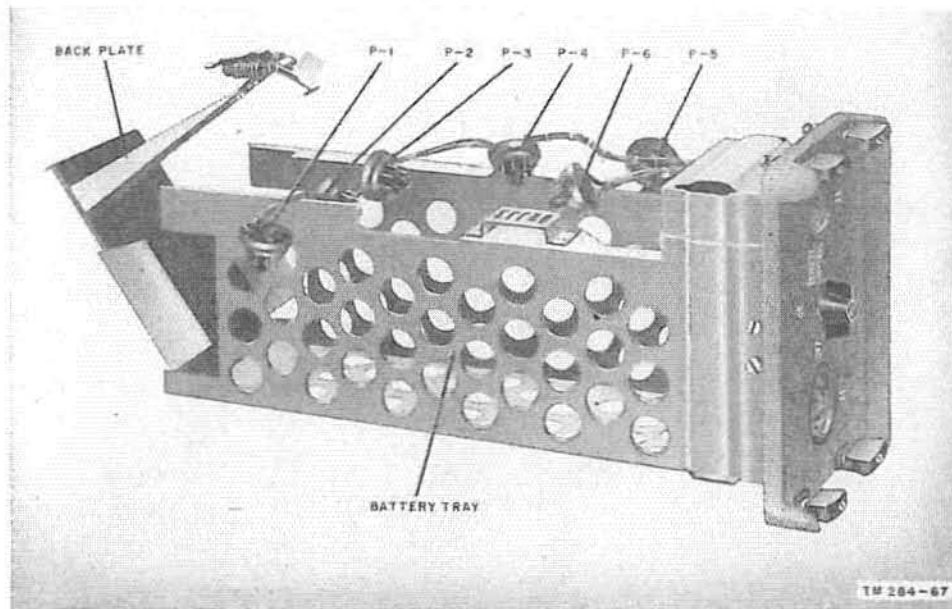

Figure 79. Case CY-590/GRC, case and batteries removed
b. Loosen the Dzus fasteners on the panel of the battery case and remove the battery tray from the case (fig. 79).